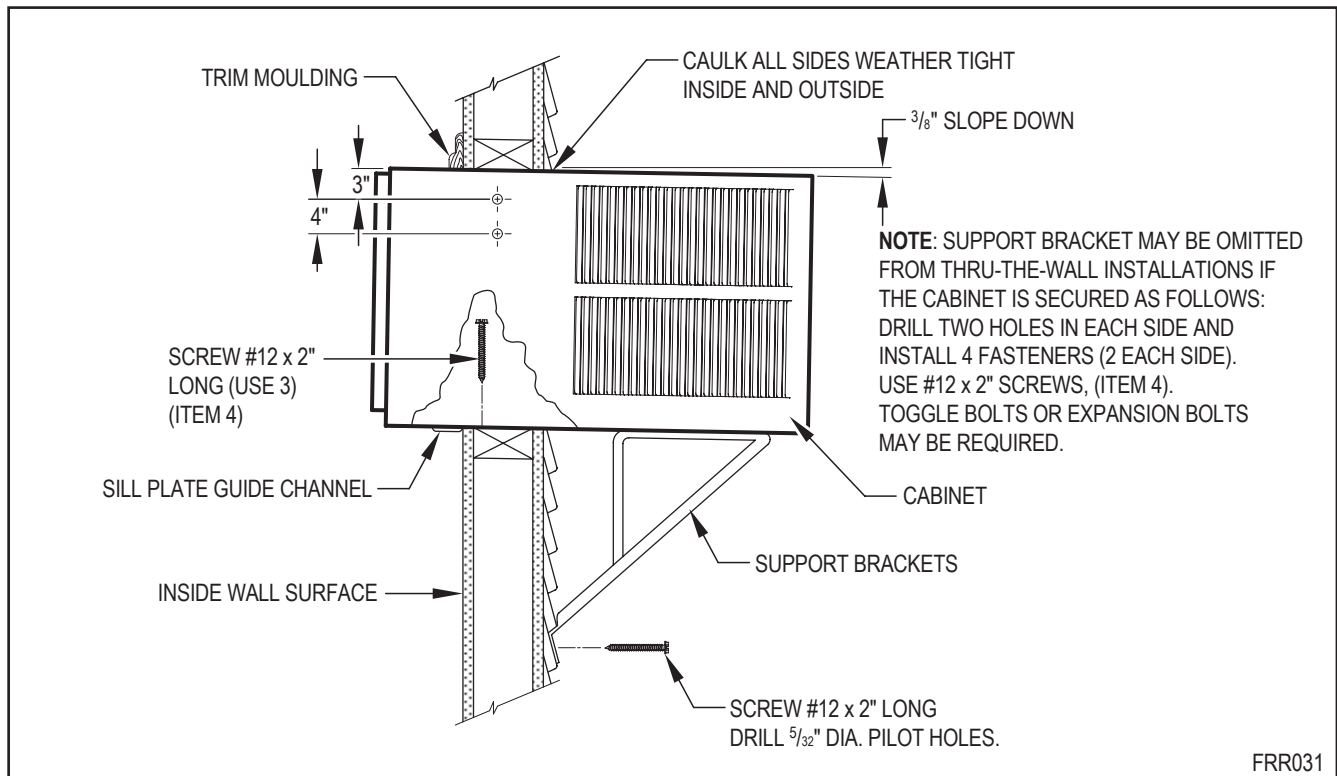

Figure C.5.9
STEP 8. Slide the cabinet into the hole far enough to allow the guide-channel of the sill plate to contact the inside wall surface (Figure C.5.9).
STEP 9. Drill three (3) $\frac{5}{32}$ " diameter pilot holes (use the sill plate holes as a guide) into the frame and install three (3) #12 x 2" long screws (Item 4) (Figure C.5.9).
STEP 10. Drill two (2) $\frac{5}{32}$ " diameter pilot holes in each cabinet side at the locations shown (Figure 83) and install four (4) #12 x 2" screws (Item 4). Provided that Step 5 (hole construction) provides a sturdy mount with solid vertical studs, support brackets may not be required. The installation must support the weight of the unit plus an additional weight of 400 pounds on the rear of the cabinet. If support brackets (Item 1) are available, they can be installed as shown in Figure C.5.9